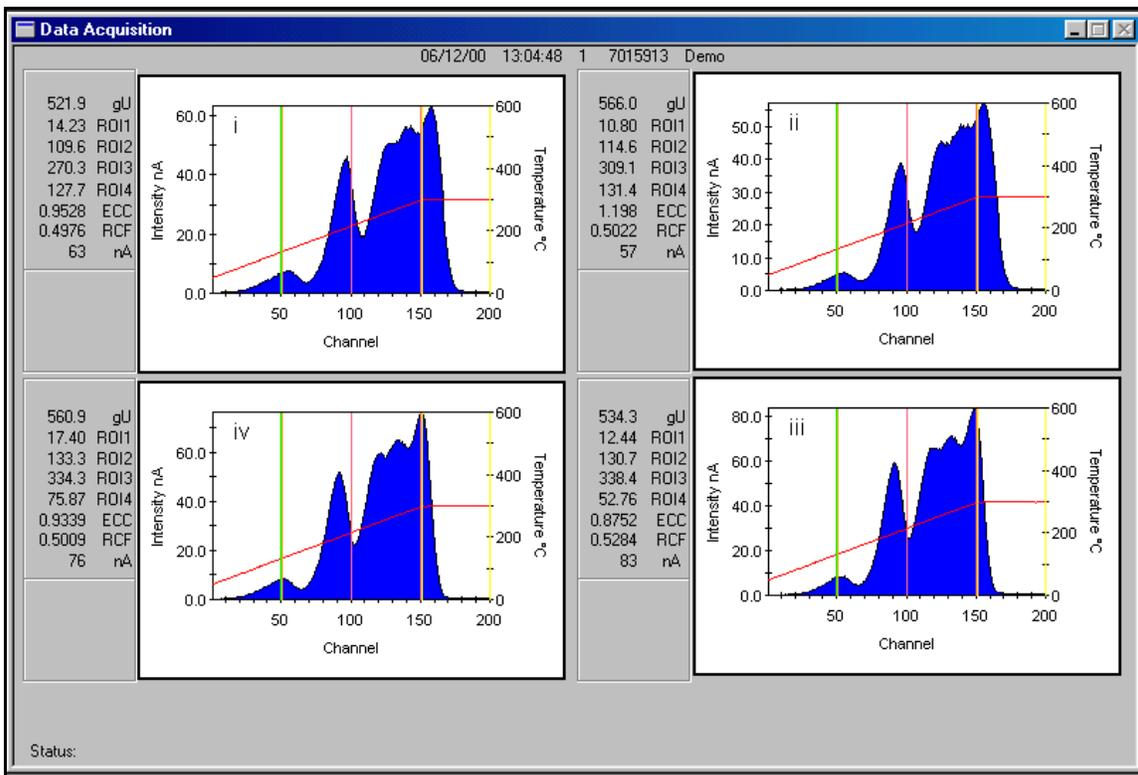

Figure 3.1 Results Screen
The results screen (Figure 3.1) displays the results of the TLD Reading as it is received from the Reader. The information on this screen is described in the following paragraphs.
Above the glow curve area is a line of information about the dosimeter record (examples from Figure 3.1): Date and time of the reading (06/12/00 13:04:48); TTP Number (1); Acquisition Mode (); Dosimeter ID (7015913); and Group ID (Demo).